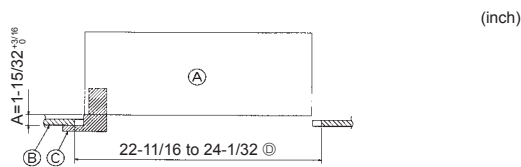

Fig. 5-2
②	Screw with washer	4	M5 × 0.8 × 28 (mm)
③	Gauge	1
④	Junction wire for signal receiver	1	Included when equipped with the signal receiver.
⑤	Junction wire for i-See sensor	1	Included when equipped with the i-See sensor.
⑥	Fastener	2	Included when equipped with the signal receiver.
⑦	Fastener	2	Included when equipped with the i-See sensor.
⑧	Wireless remote controller	1	Included when equipped with the wireless remote controller.
⑨	Remote controller holder	1	Included when equipped with the wireless remote controller.
⑩	LR6 AA batteries	2	Included when equipped with the wireless remote controller.
⑪	3.5 × 16 mm tapping screws	2	Included when equipped with the wireless remote controller.
5.2. Preparing to attach the grille (Fig. 5-2)